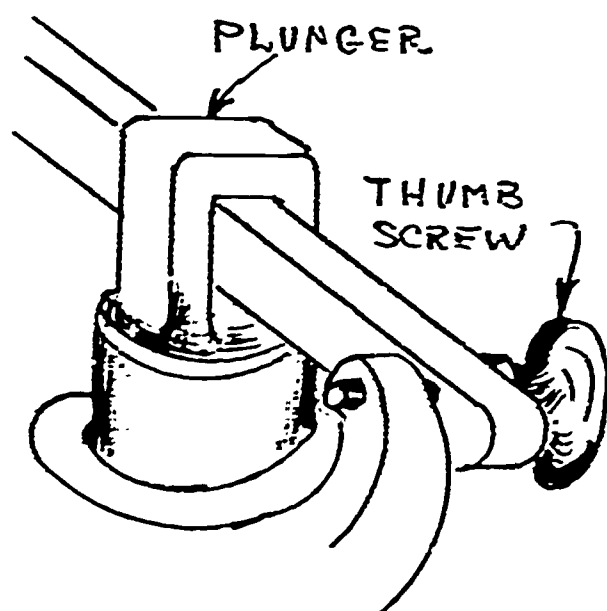

FIG. 320
e. Remove turn screw on horizontal lever and raise lever (You may have to remove float arm support.) See figure 320.